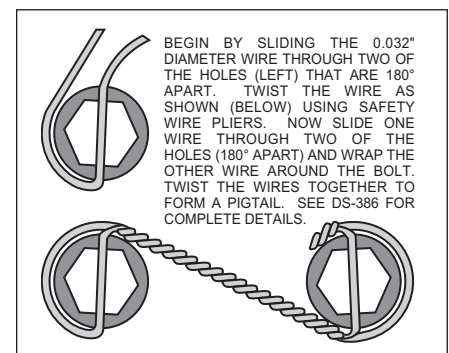

Figure 6. Safety Wire Diagram
- Slide the caliper mounting bracket kit assembly (1) onto the housing flange and then insert the axle assembly through the center hole of the caliper mounting bracket assembly (1). Align the bearing retainer (2) with the four holes inside the bracket assembly (1) and secure using the stock Original Equipment Manufacturer (OEM) bolts and nuts. Stock OEM hex nuts that retain the caliper mounting bracket assembly (1) and retainer (2) should be on the wheel side of the bracket. Apply red *Loctite*® 271 to the stock OEM bolt threads and torque to OEM specifications. Make sure the heads of the caliper mounting bracket assembly (1) insert nuts are FACING OUTWARD TOWARDS THE WHEEL.
- Align the correct hole pattern in the rotor (3) with the stud pattern on the axle flange. **NOTE:** Some OEM and after market axles come with stud sizes larger than 0.50" diameter. Verify stud size and have a qualified machine shop drill the bolt circle of the rotor to the correct stud size, if necessary. Slide the rotor (3) over the wheel studs covering the mounting bracket assembly (1) and against the axle flange face.
- NOTE:** Please reference the caution statement at the beginning of the assembly instructions. WITH THE BLEED SCREWS POINTING UP, mount the caliper (4) over the rotor (3) and onto the caliper mounting bracket (1) using lock washers (5) and mounting bolts (6). View the rotor through the top opening of the caliper. The rotor should be aligned in the center of the caliper. If not, adjust the caliper by using 0.032 inch shims (7) by placing them between the caliper mounting bracket (1) and the caliper (4). Apply red *Loctite*® 271 to the mounting bolt threads (6), torque to 30 ft-lb. Safety wire the caliper mounting bolts (6) using standard 0.032 inch diameter stainless steel safety wire as shown in Figure 6. Please refer to Wilwood's data sheet DS-386 (available at www.wilwood.com/pdf/ds386.pdf) for complete safety wire installation instructions.
- Position the Wilwood disc brake pads (8) into the caliper (4) and fasten with cotter pin (9). Steel backing plate side of brake pad should face the caliper pistons.
- Before final installation of the wheel, install a couple of lug nuts and adjust the parking brake shoes outward (using a drum shoe adjustment tool available at your local auto parts store) while spinning the rotor/hat (3) until a slight drag is felt again the hat/drum.